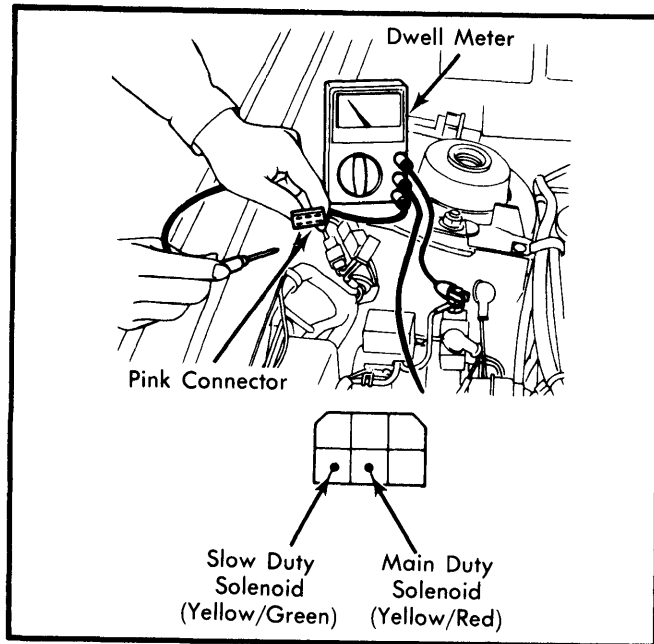

Fig. 3 Idle Mixture Test Connections
2) Connect a dwell meter to Yellow/Red wire in Pink connector near right front shock tower. Set meter on 4 cylinder scale and observe needle movement with engine idling. See Fig. 3.